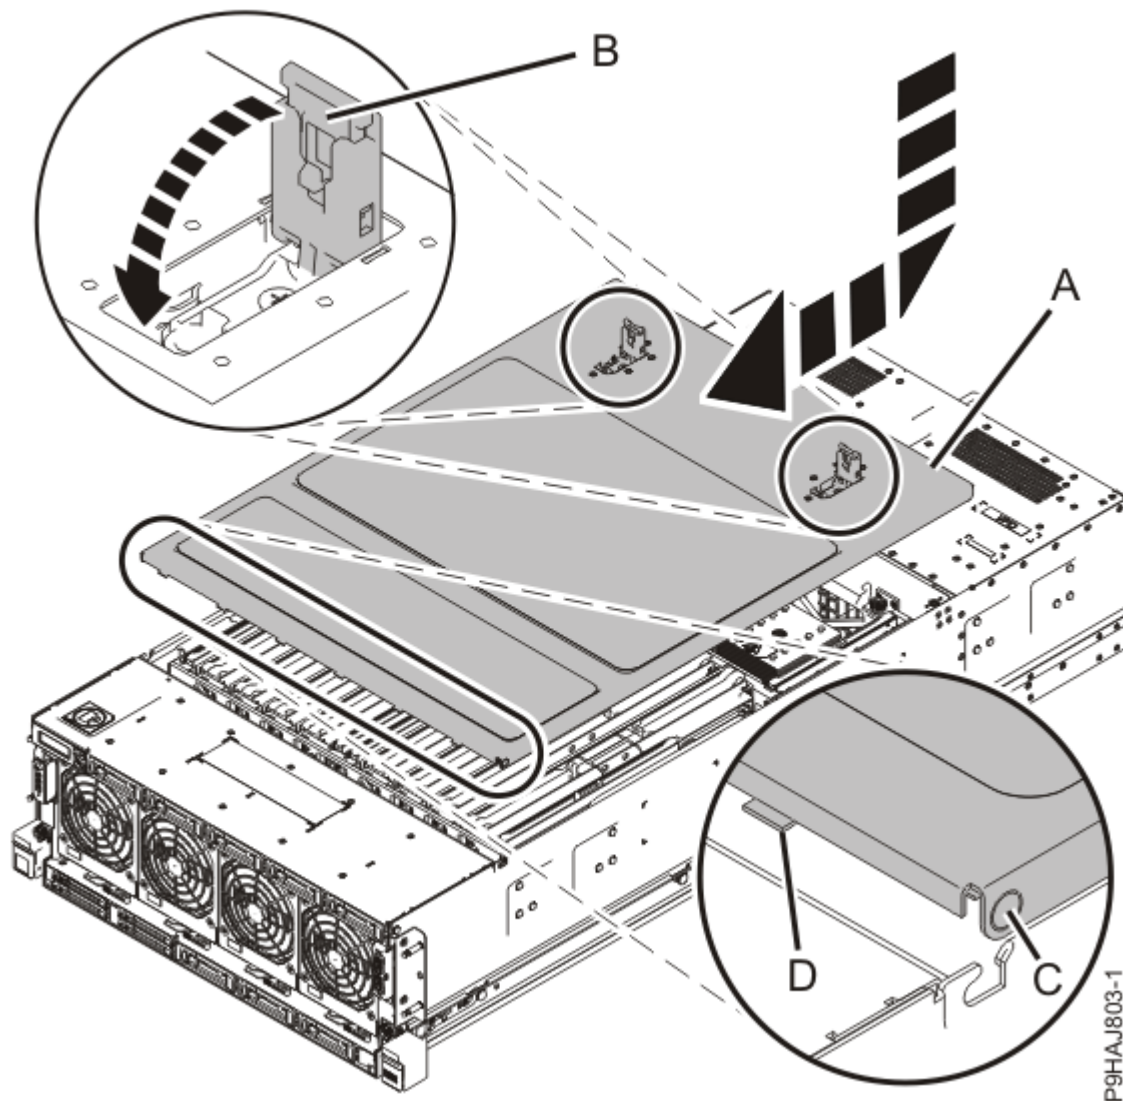

Figure 22. Installing the service access cover
- a) Slide the cover **(A)** onto the system unit as shown in Figure 22 on page 23.
- b) Close the release latches **(B)** by pushing it in the direction as shown in Figure 22 on page 23.